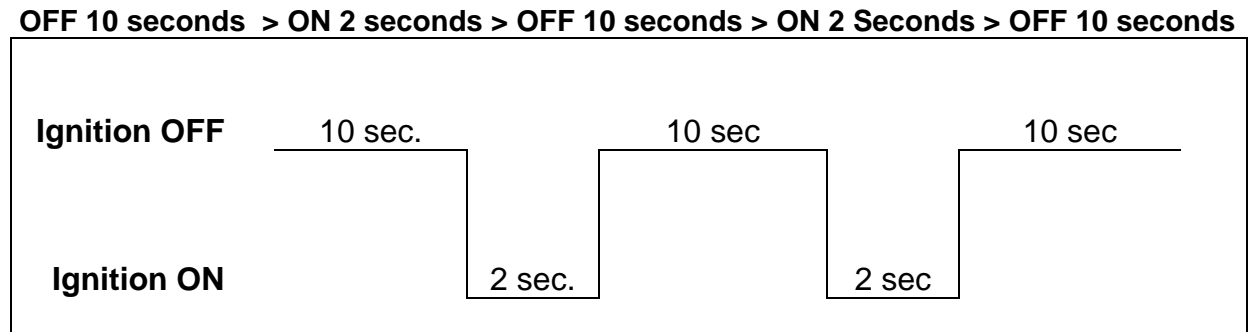

Figure 19
40. Operate the ignition as shown in Figure 19.